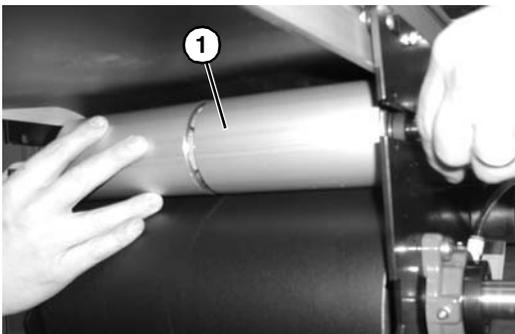

Figure 67
7. Slide out tensioning pulley (**Figure 67, item 1**).